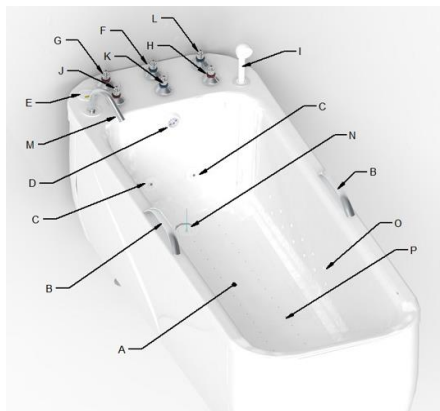

Figure 1 - Basin view of ECO and STANDARD 300 l bathtub with operating and adjustment elements
Figures 1 and 2 show a top view of the BALMED bathtub basin with adjustment and operating elements. In the lower part the anatomically shaped basin (A) there are two additional nozzles for filling (C) water saturated with CO₂. On the upper edge of the bathtub there are filling valves: hot water (J) and cold water (K), hot brine (or sulfur water) (G), cold brine (or sulfur water) (F), water saturated with CO₂ (L), shower head (I) for rinsing with a shower head valve (H) and bath filler (M). The temperature of the water flowing out of the shower head is set to 38°C by means of a thermostatic valve. Valves: (G), (F), (L) occur depending on the order option. On the line of maximum water level in the basin there is an overflow hole (D) with a water drain plug (N) attached. The bathtub is equipped with a larger diameter drain, allowing water to be drained after bathing with suspensions. On the crown of the basin handles (B) are mounted to facilitate taking a position in the tub. The control panel or a button (E) - depending on the order - is installed in the AIR and CHROMO options.